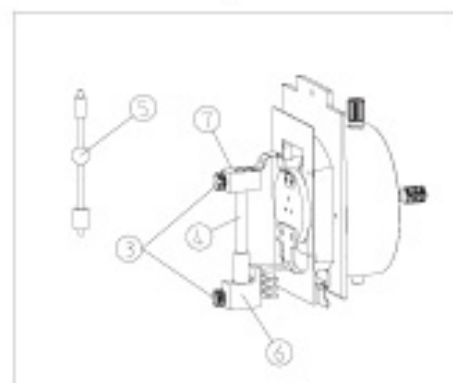

Figure 11
(2) Loose the lock screw 3 for mercury bulb and take off the supporting pole 4. Insert the anode side (big side) on mercury bulb into the anode holder 6 and set negative holder on small side of bulb, then tight the screw 3. (Fig.11)
(3) Put the bulb holder 2 into its house and tight the screw 1.